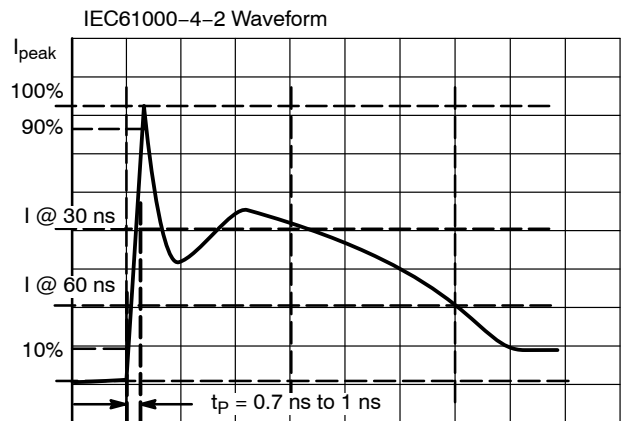

Figure 3. IEC61000-4-2 Spec
3. For test procedure see Figures 3 and 4 .